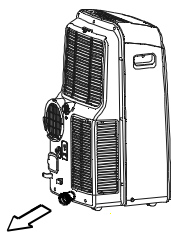

Fig. 22
Carefully move the unit to a drain location, remove the bottom drain plug and let the water drain away(Fig.22). Reinstall the bottom drain plug and restart the machine until the "P1" symbol disappears. If the error repeats, call for service.
- Remove the plug from the bottom drain outlet, all the water in the bottom tray would drain out (See Fig.22).